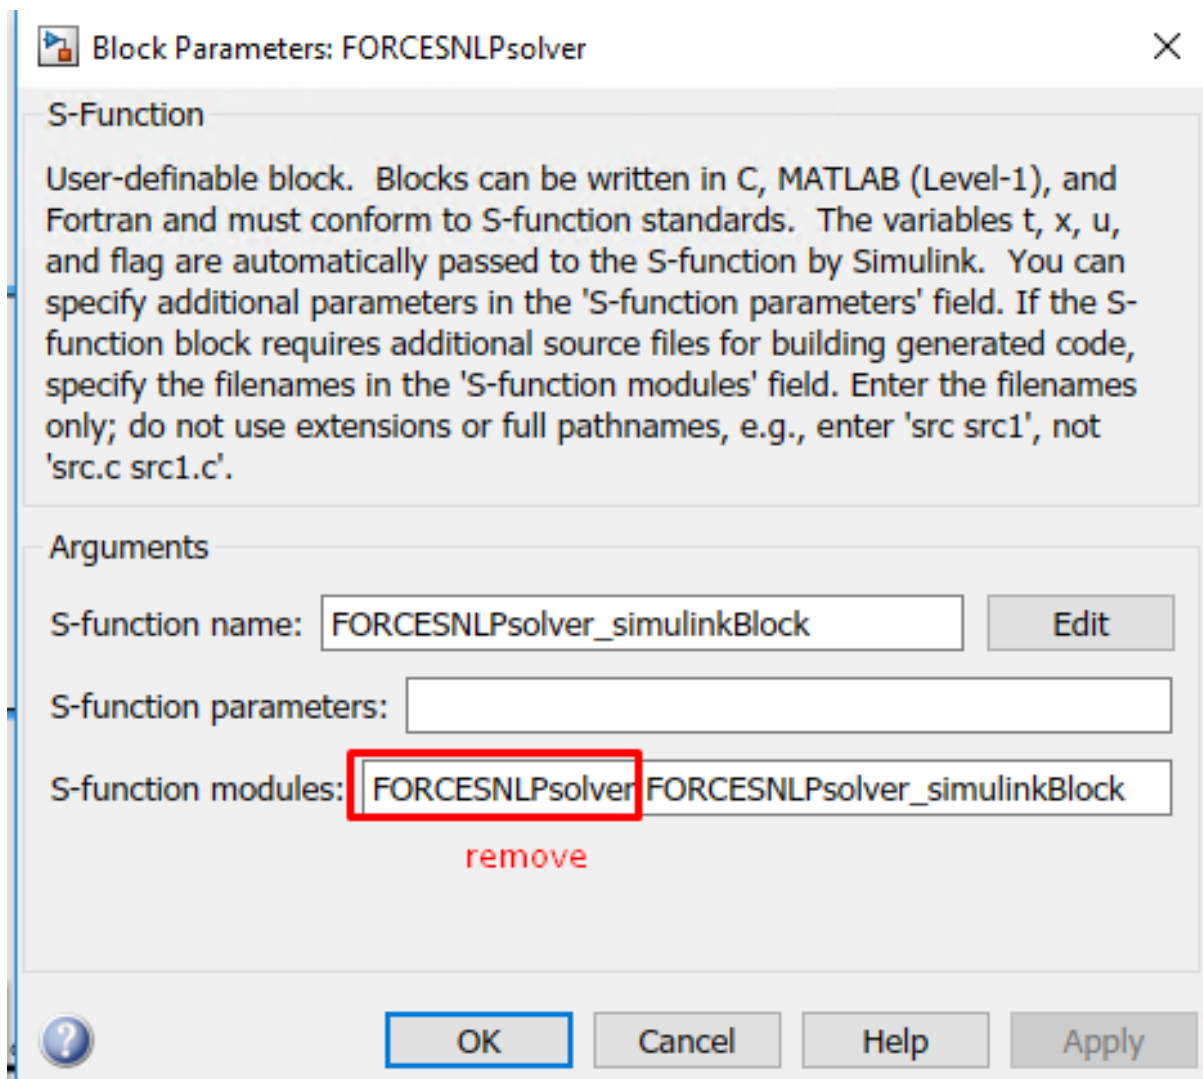

Figure 13.14: Remove the leading solver name from the S-function module.
14. (Figure 13.14) Remove the “FORCESNLPsolver” prefix from the S-function module.